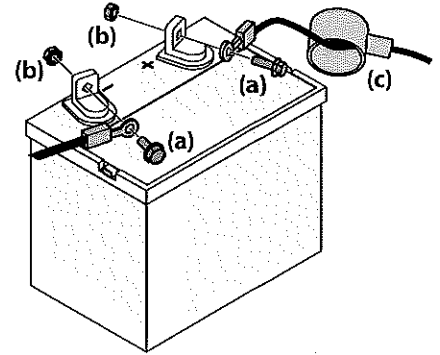

Figure 2-14
1. Remove the plastic cover, if present, from the positive battery terminal and attach the red cable to the positive battery terminal (+) with the bolt (a) and hex nut (b). See Figure 2-14.
2. Remove the plastic cover, if present, from the negative battery terminal and attach the black cable to the negative battery terminal (-) with the bolt (a) and hex nut (b). See Figure 2-14.